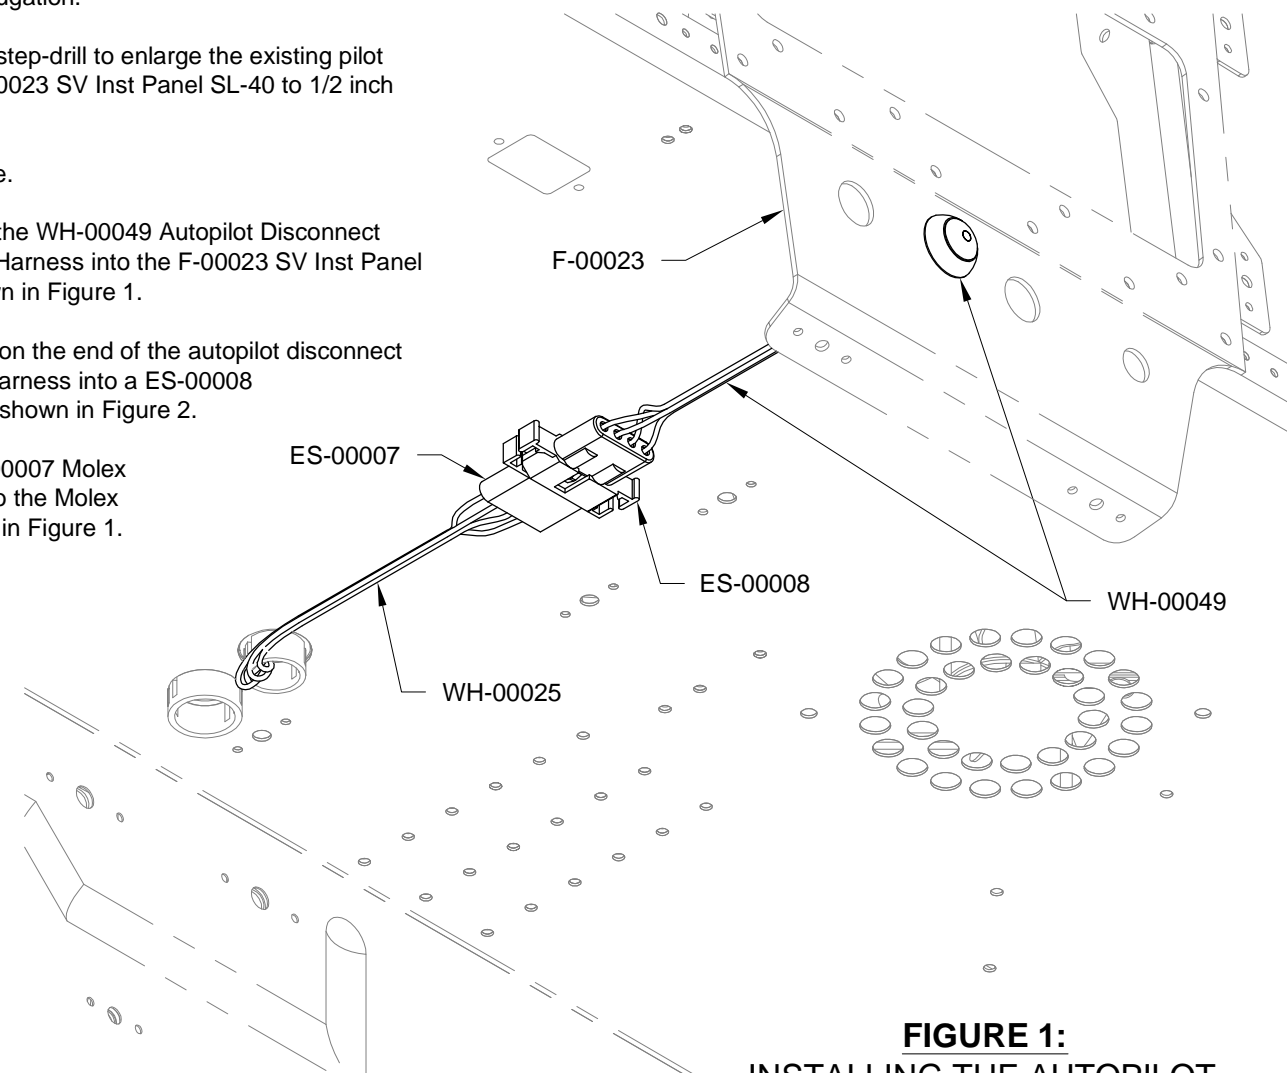

FIGURE 1:
Step 3: Install the WH-00049 Autopilot Disconnect Switch Wiring Harness into the F-00023 SV Inst Panel SL-40 as shown in Figure 1.
Insert the ES-00007 Molex Receptacle into the Molex plug as shown in Figure 1.